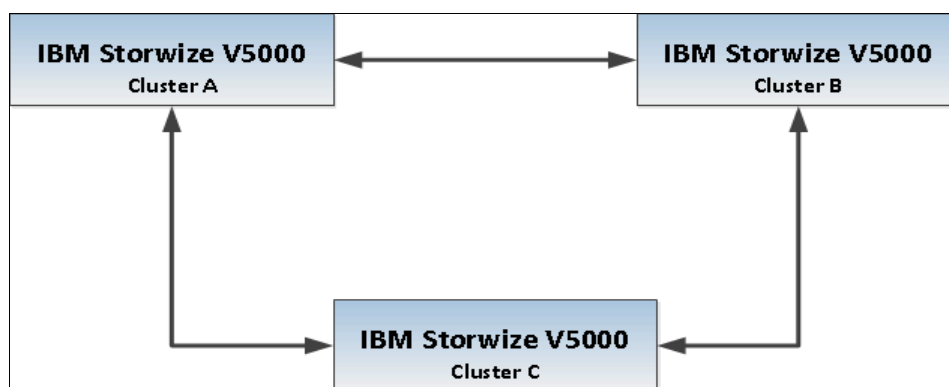

Figure 10-75 Triangle partnership topology for IBM Storwize V5000
- ▶ Triangle topology, as shown in Figure 10-75.